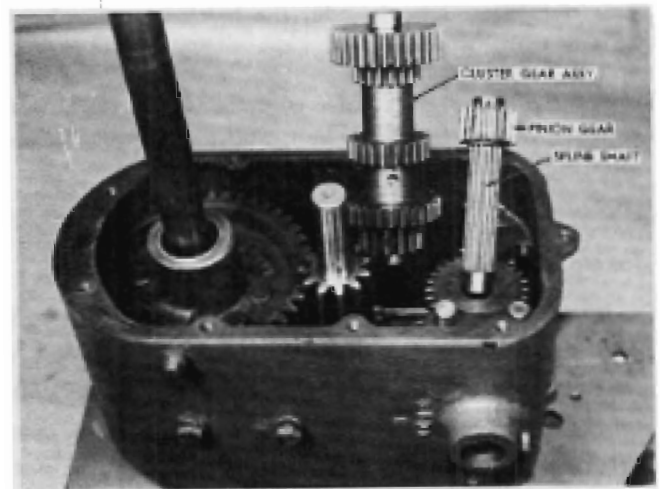
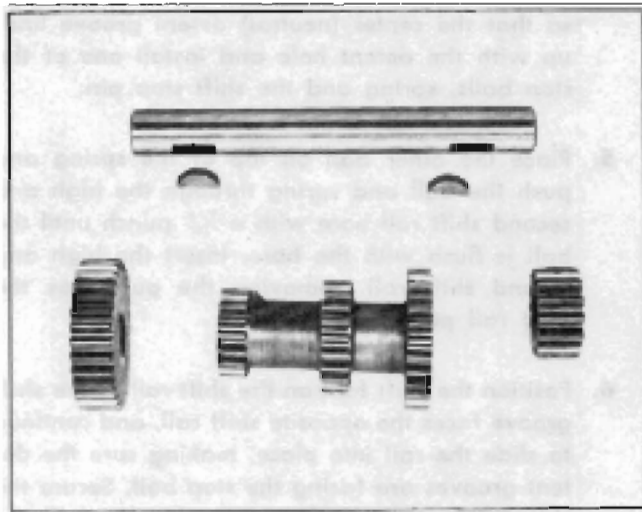

FIGURE 4
FIGURE 5
6. Remove the spline shaft and pinion gear. See Figure 4. NOTE: The shaft and matching gears in some transmissions have 10 splines while later models have 11 splines. For details and ordering information, refer to Service Note 3, Page 12.
moved, as shown in Figure 4. The cluster gear may be disassembled as shown in Figure 5. Disassemble and assemble carefully to avoid damage to the Woodruff keys and bushings. The cluster gear bushings may be removed and installed using suitable arbors.